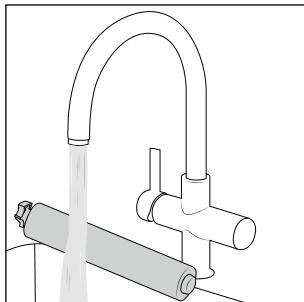

Fig. 35
- ◆ Clean the splash guard **7** and the rotary brush **6** in hot running water (see fig. 35).